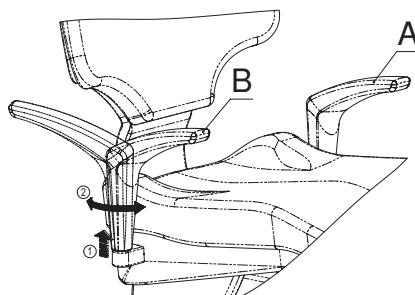

Fig. 22
To rotate the optional armrest (A), it must be pulled upwards (kept in its housing) until the rotation mechanism is released, allowing it to be turned until reaching the track limit where it stops. To return the armrest to its initial position, simply lift it and turn it inside until it locks automatically (Fig. 22).